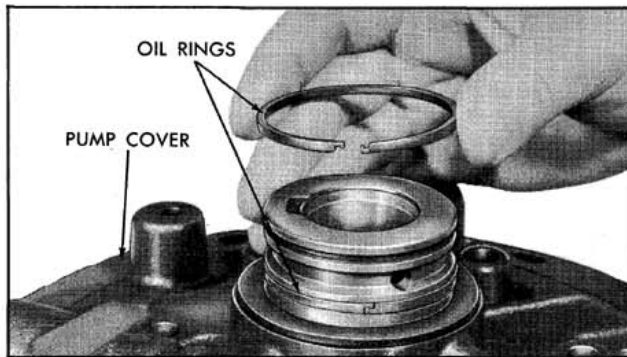

Fig. 6-120 Installing "O" Rings
9. Install two hook-type oil seal rings. (Fig. 6-120)